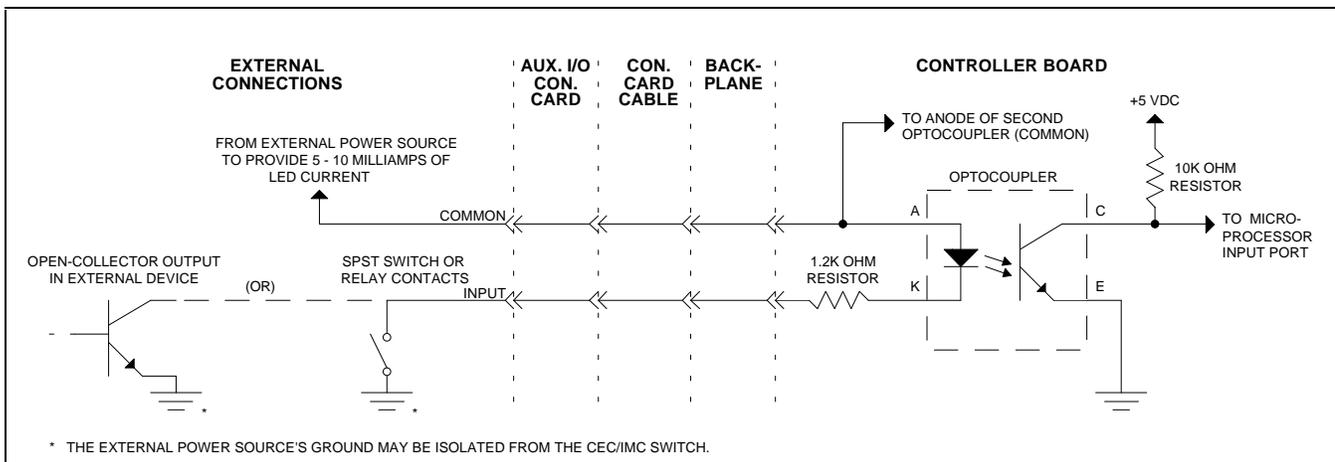

Figure 11 - Auxiliary Input Connection
All eight (8) auxiliary inputs on a Controller Board use optocouplers to connect the input line to the microprocessor. As shown in Figure 11, the external side of each input circuit consists of a 1.2K Ω resistor in series with the optocoupler's LED.